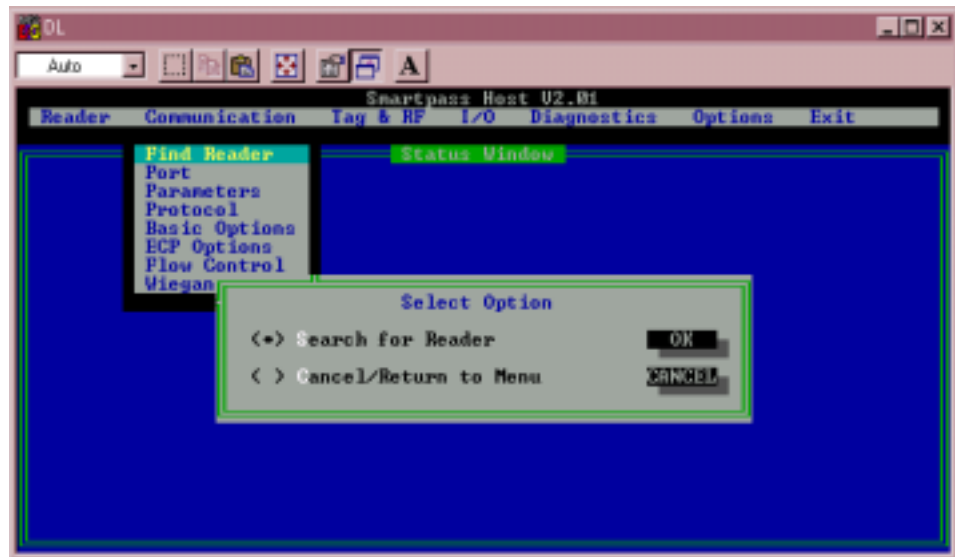

Figure 1-14 Find Reader Options
1. Select the **Communication** drop-down menu and click the **Find Reader** option. The **Select Option** dialog box appears as shown in Figure 1-14.